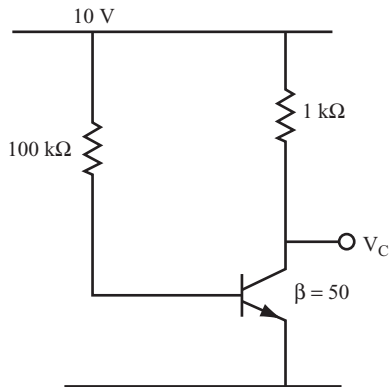

FIGURE 3.27
**27** Now, calculate the following parameters for the circuit in Figure 3.27, and compare the results to the examples in problems 25 and 26. Again, the objective here is to find  $V_C$ .